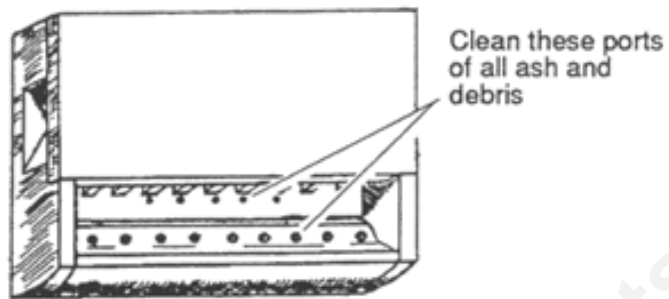

Fig. 1 Secondary combustion package showing secondary air entry ports.
- 8) With the stove disassembled to this extent, examine the secondary combustion package. Clear the package and exhaust passages with your shop vacuum from above. Clear the secondary air passages of all ash and debris (**see Fig. 1**). Examine the damper gasket and the gasketing on the stove back flange. If the gasketing is damaged, broken or dried up and brittle, replace it.